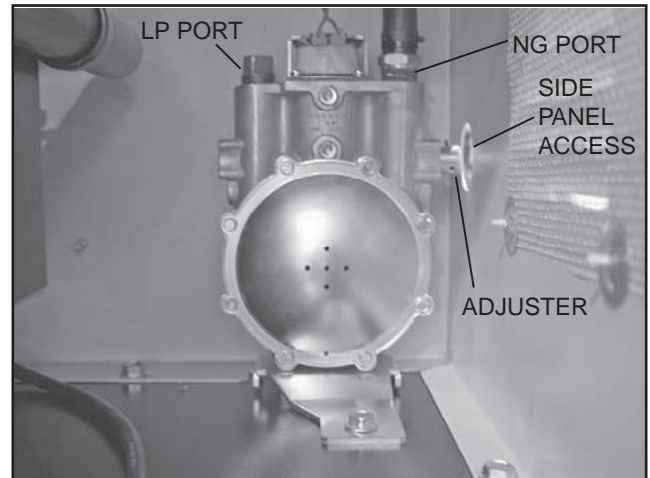

Figure 41.
- Note: Only limited adjustment is available between the set pins on fuel regulators. Under no circumstance should any of the pins be removed (see Figure 41).**